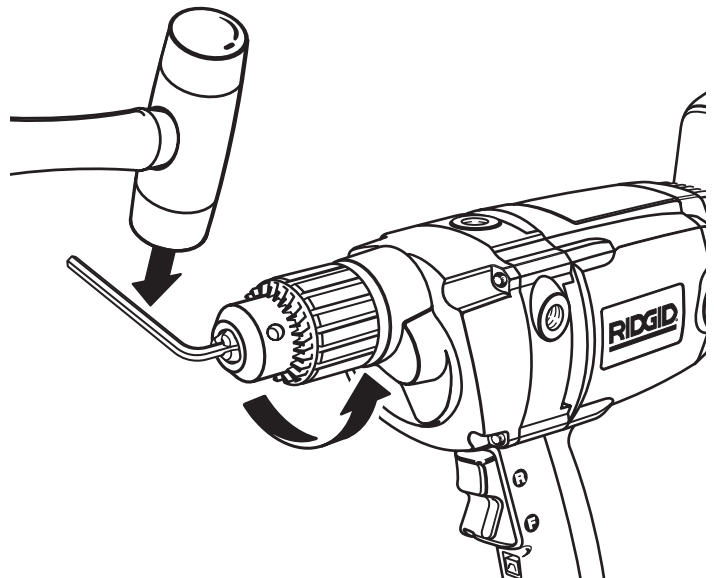

Fig. 12
- Tap sharply with a mallet in a counterclockwise direction. See Figure 12. This will loosen chuck on the spindle. It can now be unscrewed by hand.